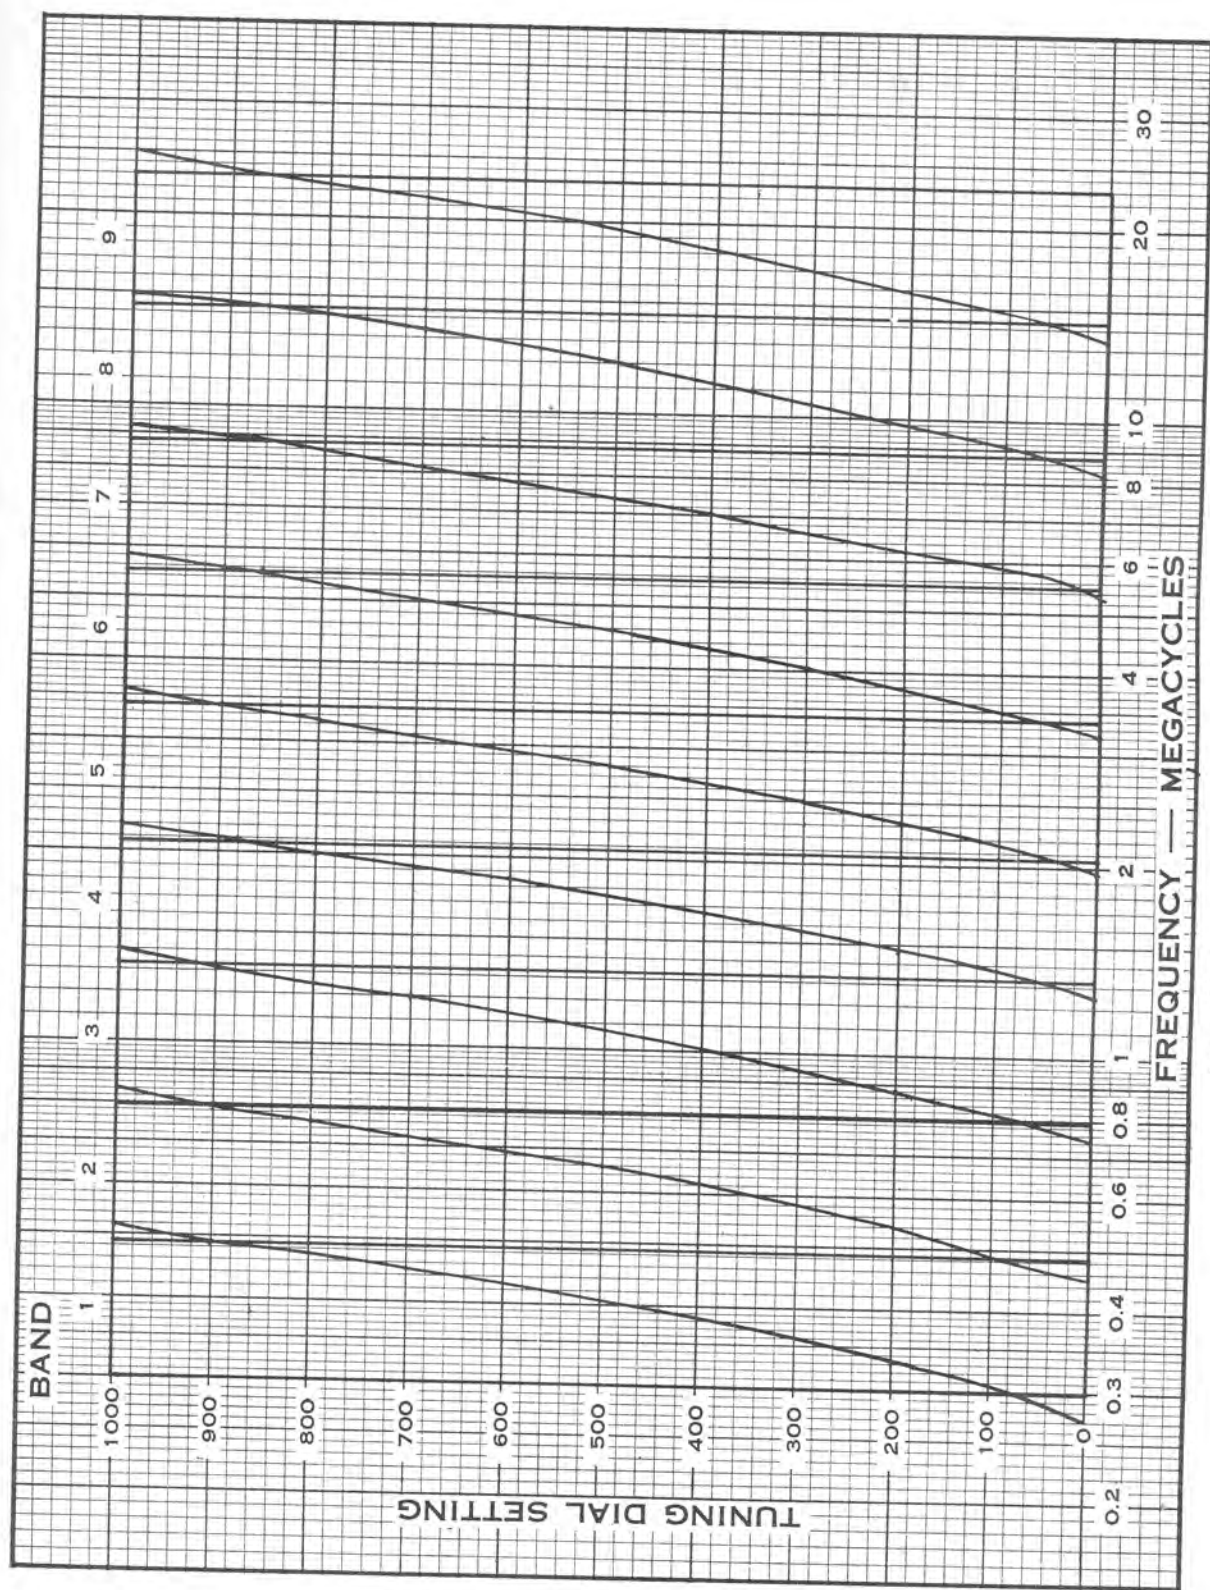

Figure 13—Average Frequency Calibration Curves
- 11.4-1 Figure 13 shows average frequency calibration curves and band coverage of this equipment. Table No. 2 gives the nominal frequency range of each band.